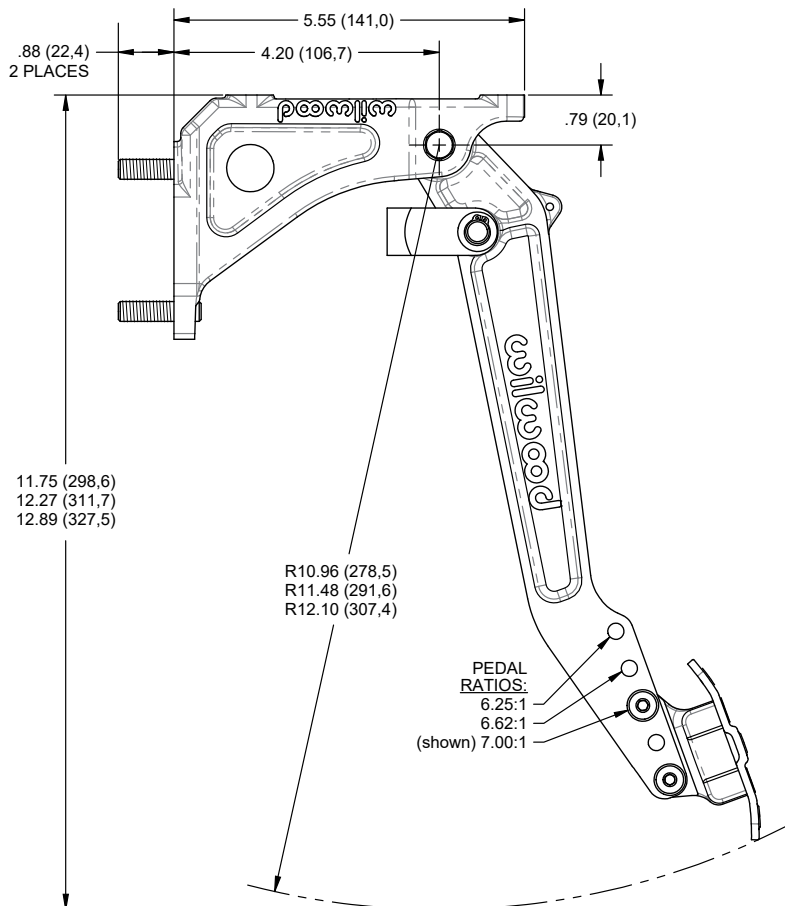

Figure 1a. Forward Swing Mount Clutch Pedal Assembly, Physical Dimensions, 6.25:1 to 7.00:1 Ratio (P/N 340-16381)
•Wilwood's forward swing mount clutch pedal assembly must be mounted using the two .33" diameter mounting holes as shown in Figures 1a & 1b. Attach the pedal assembly to a sturdy beam or plate with two 5/16" bolts. Pedal assembly must be rigidly attached to frame and not deflect under heavy pedal forces. **NOTE:** Pedal must be free from obstructions over the entire range of motion. Allow enough space so pushrod adjustments can be made and master cylinder is accessible.